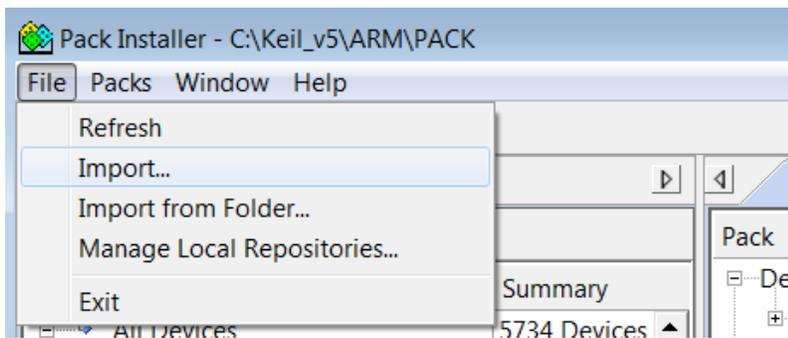
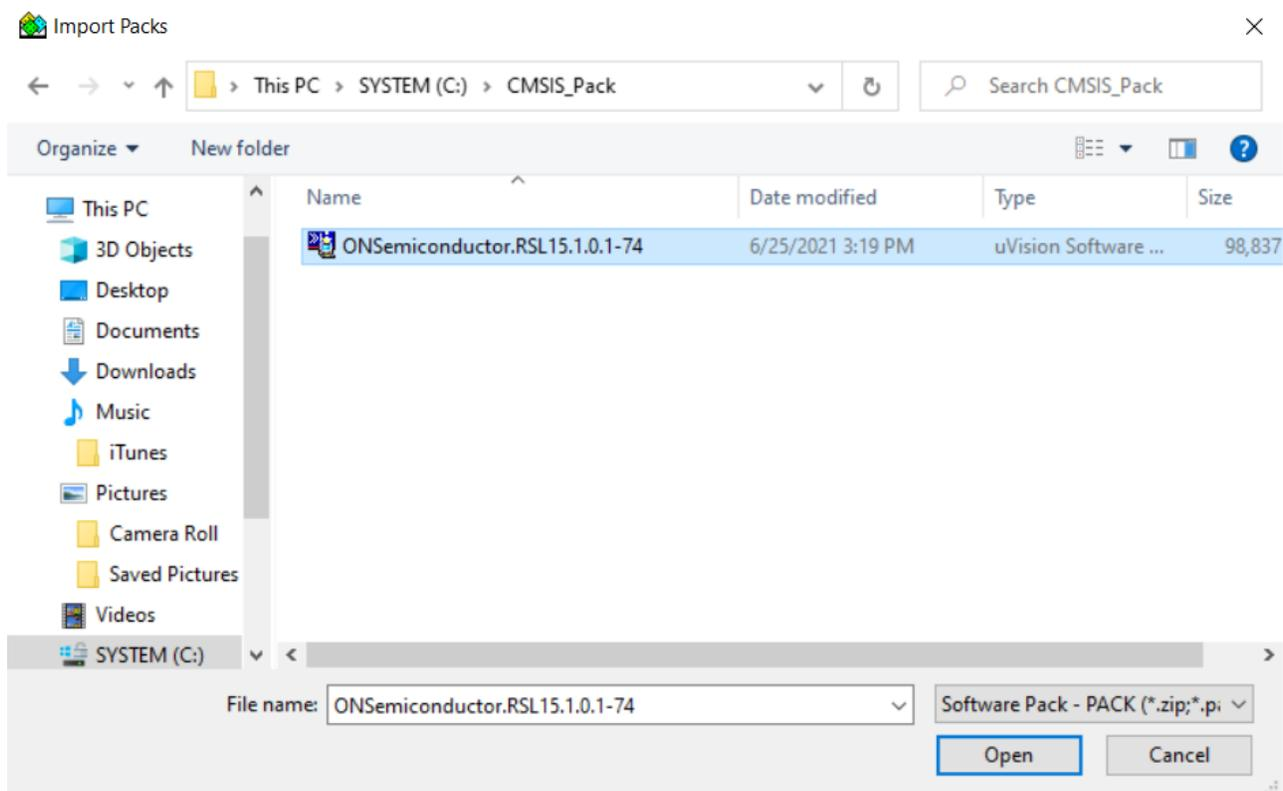

Figure 21. Importing the RSL15 CMSIS-Pack
Figure 22. Installing the RSL15 CMSIS-Pack for the Keil μ Vision IDE
3. Click on **File > Import** (see the "Importing the RSL15 CMSIS-Pack" figure (Figure 21)), select your pack file `ON Semiconductor.RSL15.<version>.pack`, and click **Open** (see the "Installing the RSL15 CMSIS-Pack for the Keil μ Vision IDE" figure (Figure 22)). `<version>` is the RSL15 version, such as 2.2.347.